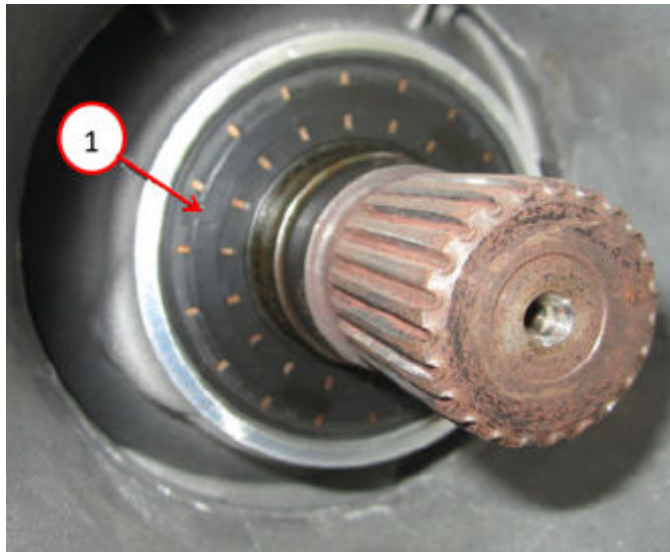

Fig. 3
6. Remove the transmission output shaft seal Fig. 3.